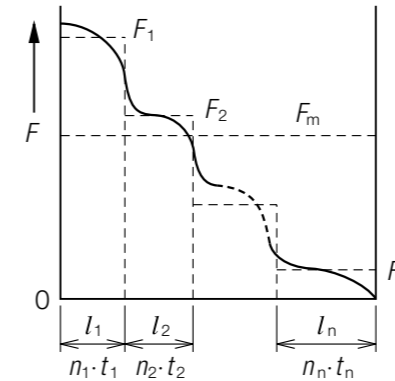

Fig. 1 Stepwise load change
#### 1) When load and travel distance (LG) or rotational speed (BS) shift stepwise (Fig. 1)